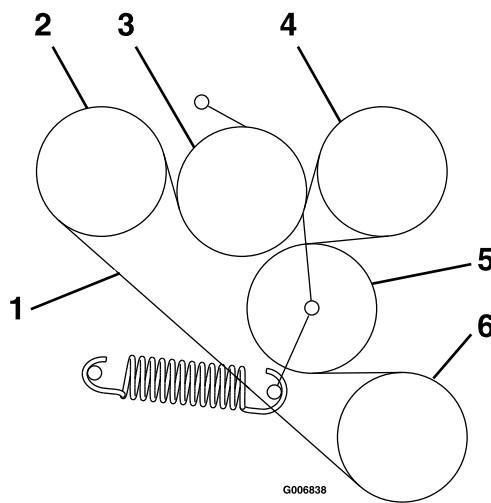

Figure 53
6. Route new belt onto sheaves as shown in the decal located on the back of the left drive shield (Figure 53).